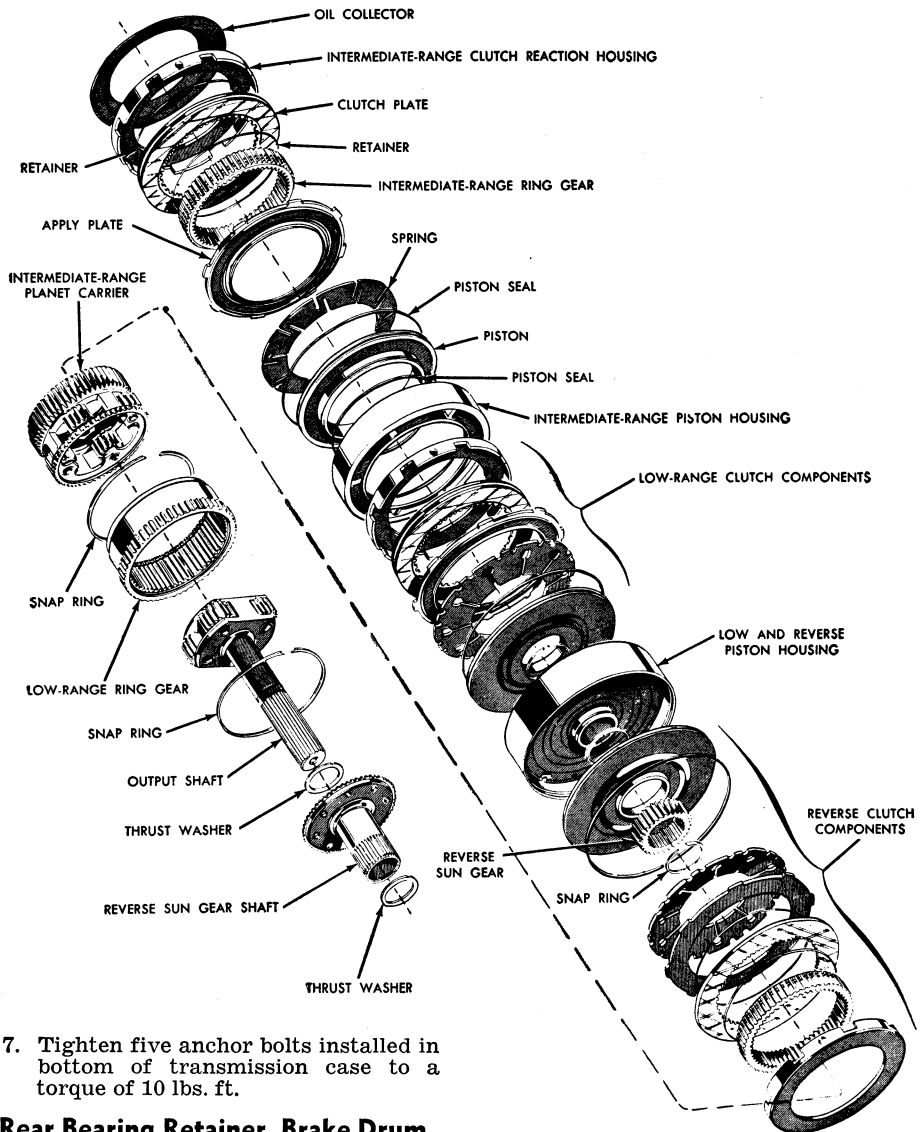

Fig. 12 Clutches and gears
4. Install intermediate ring gear with longer section of gear toward front of transmission and toward reaction plate, Fig. 12.